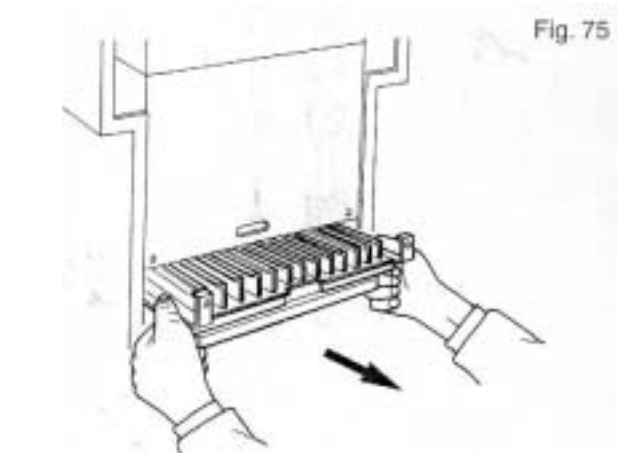

Fig. 75
7.15.6 Pull the burner forward and remove (Fig. 75).